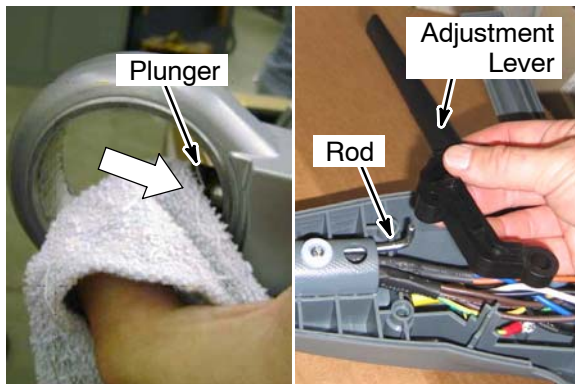

Fig. 7
- Press the spring loaded plunger inward and remove the handle adjustment lever from the rod (Figure 7).